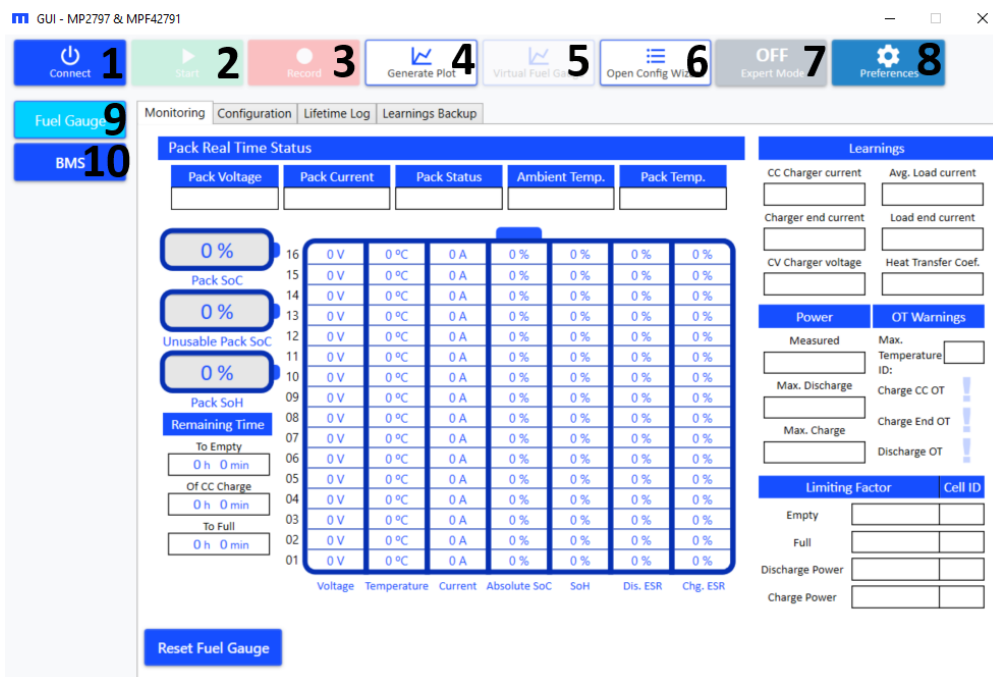
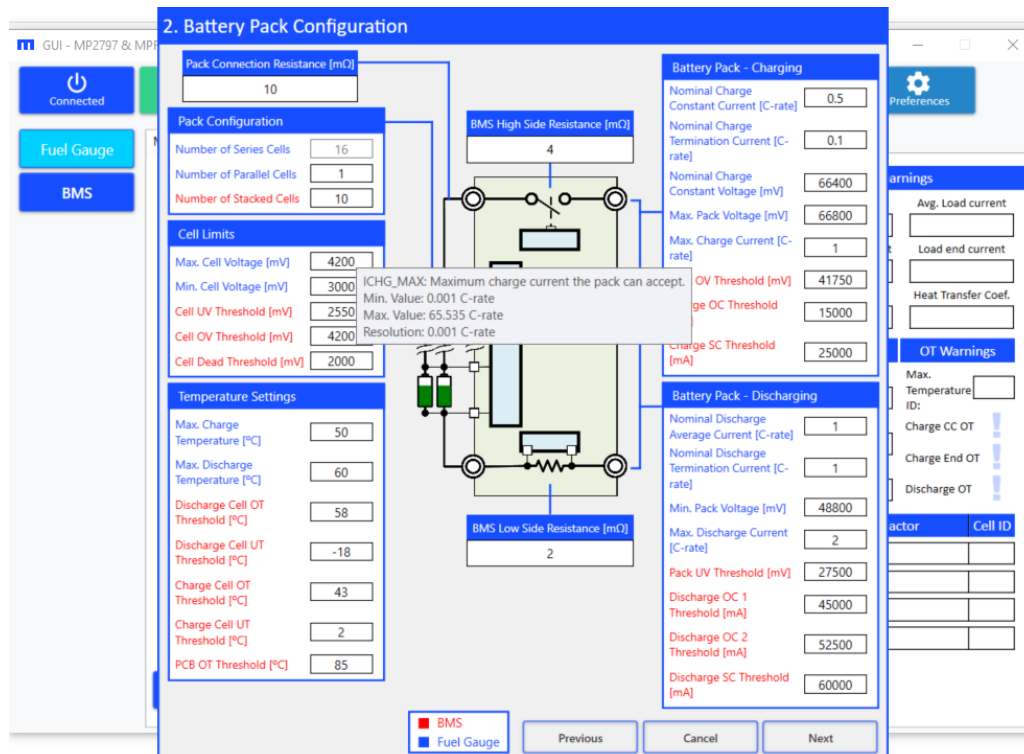
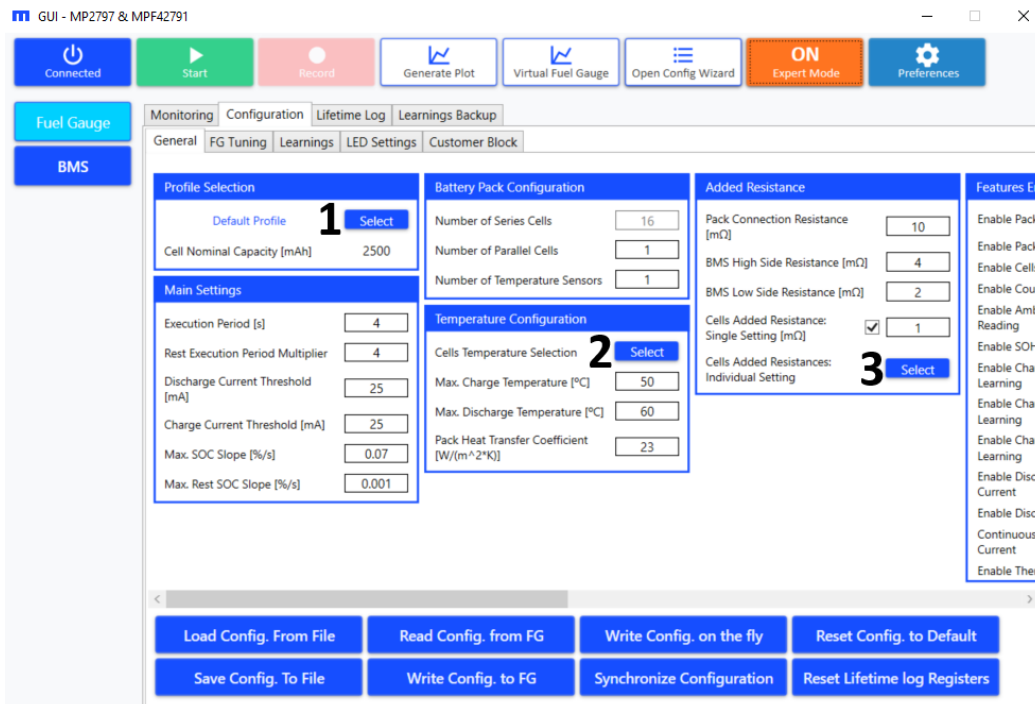

Figure 31: GUI Main Window
Figure 38: Configuration Wizard 3 – Battery Pack Configuration (Register Details)
Figure 41: Fuel Gauge Configuration – Expert Mode
4. The main window should pop up (see Figure 31 on page 26).
- Click “Connect” in the upper bar (denoted as “1” in Figure 31). A window with a drop-down menu should appear.
1. Click “Preferences” (denoted as “8” in Figure 31 on page 26). The Preference window should open.
3. The default values should be displayed on the screen (see Figure 31 on page 26). For example, “user” should target the desktop user that has access to the GUI. The default values are used the first time the GUI is opened, or if the user clicks “Default Values”.
4. Once the configurations have been made, click “Save” (see Figure 31 on page 26). The configurations should be saved.
2. Click “Open Config Wizard” (denoted as “6” in Figure 31 on page 26).
- Place the cursor on top of a register name to display the register's information (see Figure 38). For more detailed information on the fuel gauge registers, refer to the MPF4279x datasheet.
1. Click “Fuel Gauge” (denoted as “9” in Figure 31 on page 26).
3. To see the full set of registers to fine-tune the fuel gauge, select “Expert Mode” (denoted as “7” in Figure 31 on page 26). The full set of configuration registers should be displayed, as well as two extra sub-tabs: Learnings and Customer Block (see Figure 41). Figure 38 shows three “Select” buttons, discussed in greater detail below.
- c. The third “Select” button opens the wizard to introduce the added resistance from each cell’s connections (see Figure 41 on page 32). Alternatively, the “Cells Added Resistance: Single
Setting can set a single value for all cells. A checkbox in the window allows users to enable or disable this option (see Figure 41 on page 32).
1. Click “BMS” (denoted as “10” in Figure 31 on page 26).